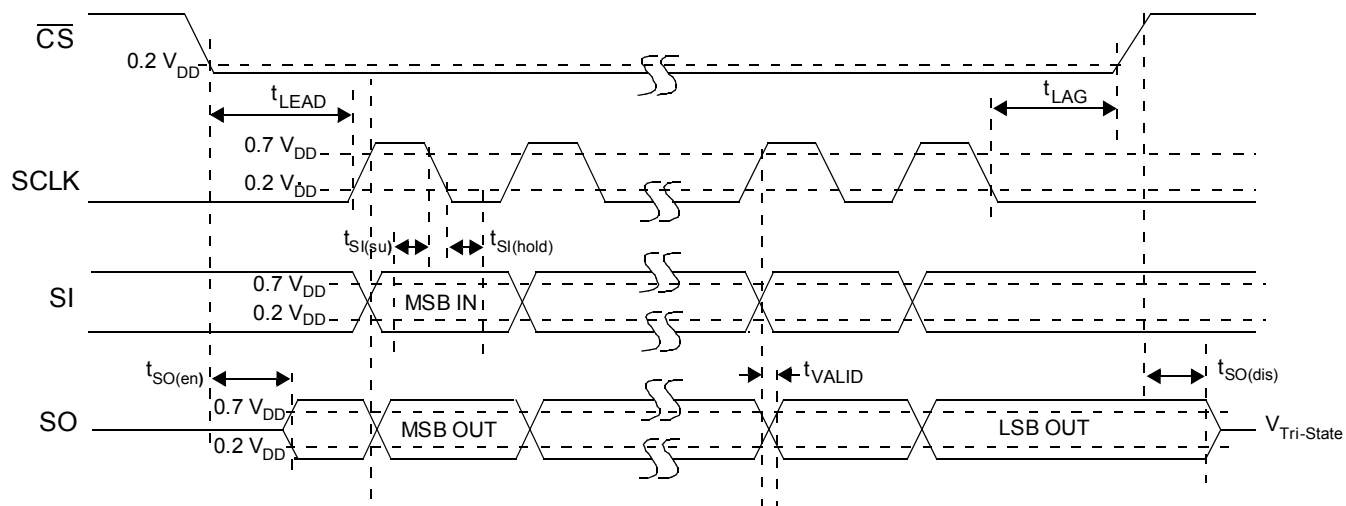

Figure 4. SPI Timing Characteristics
The Serial Input (SI) pin is used to enter one of seven serial instructions into the 33996. SI SPI bits are latched into the Input Shift register on each falling edge of SCLK. The Shift register is full after 24 bits of information are entered. The 33996 operates on the command word on the rising edge of  $\overline{CS}$ . To preserve data integrity, exercise care not to transition SI as SCLK transitions from high to low state (see Figure 4, page 8).